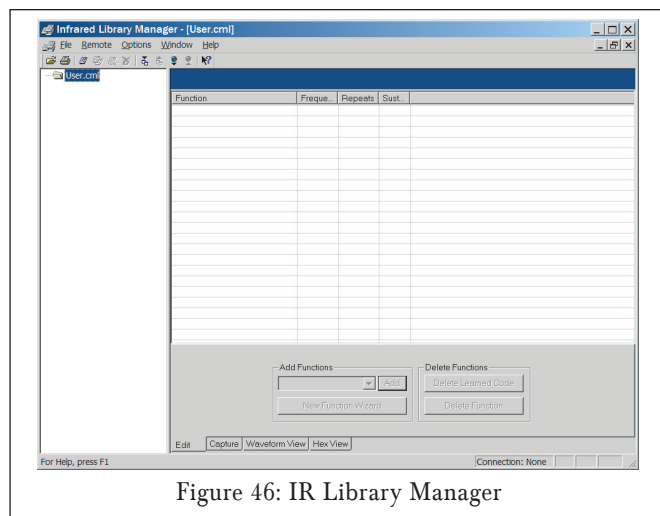

Figure 46: IR Library Manager
1. Open the Sonance Control Manager, open the LIBRARY menu and select IR LIBRARY MANAGER. The IR LIBRARY MANGER (*Figure 46*) window will open.
1. Open Sonance Control Manager and open the LIBRARY menu. Select IR LIBRARY MANAGER. The IR LIBRARY MANAGER window (*Figure 46*, on page 35) will open.